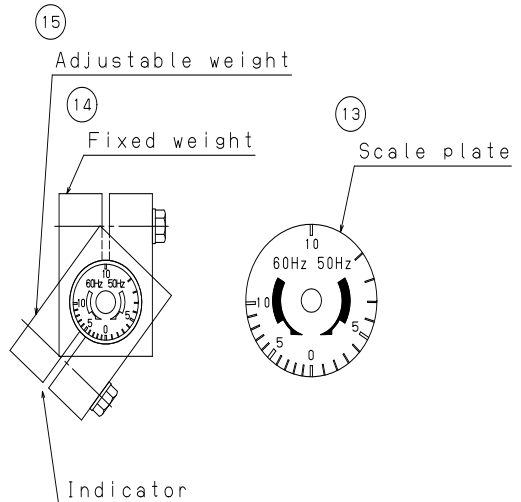

Fig. 9
As shown in Fig. 9, the scale plate ⑬ has 10 graduations, according to which the vibrating force can be adjusted for both 50 and 60 Hz power supplies. Select the graduation according to the power supply frequency.
The scale plate ⑬ for eight-pole vibrators with a 60 Hz power supply has only graduations for a 60 Hz power supply, similar to the 50 Hz graduations shown in Fig. 9